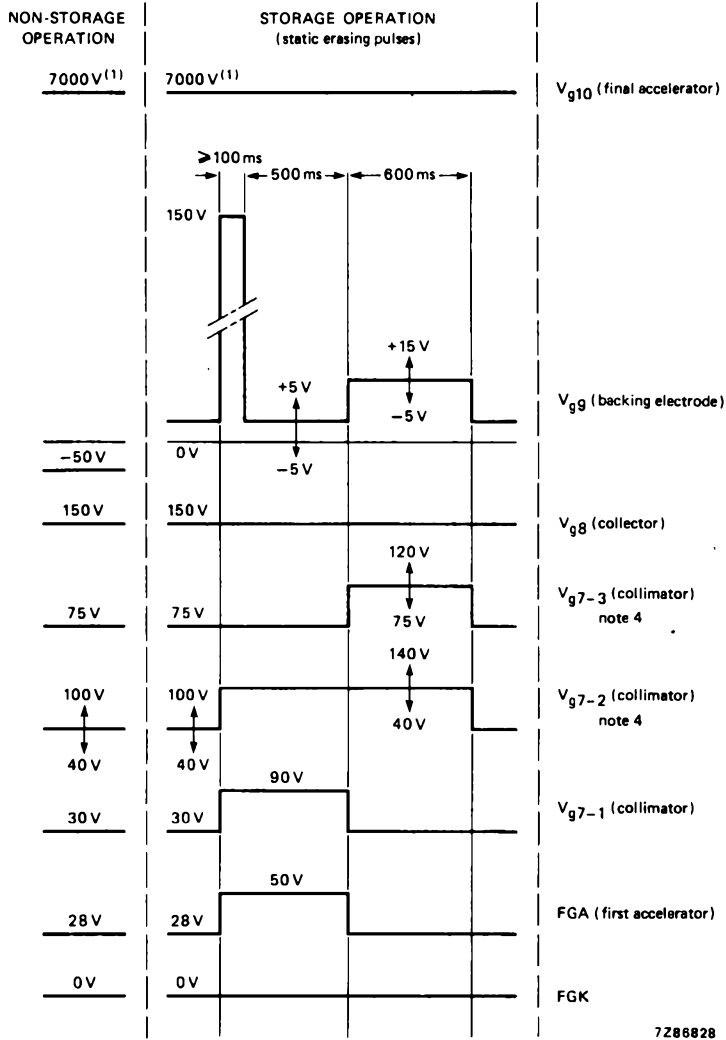

Fig. 8 Diagram of non-storage and storage operation.
Refer to Fig. 8 for typical operating values.
b. Static erasure (Fig. 8)